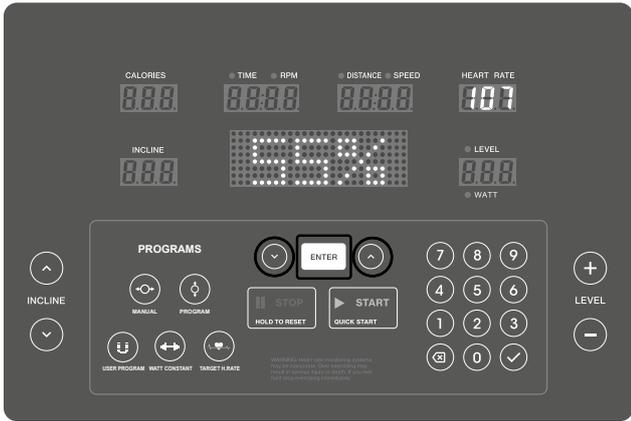

FIGURE 18
5. Choose one of the four programmes (55 %, 75 %, 90 %, or TAG) using the arrow keys (Figures 18–19).